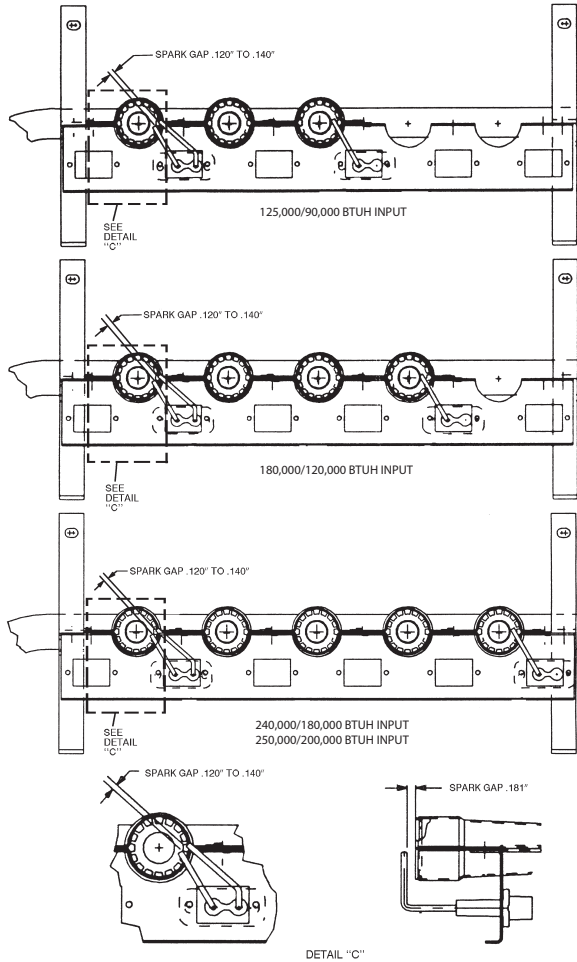

Fig. 36 – Spark Adjustment
4. Adjust spark gap. (See Fig. 36.)